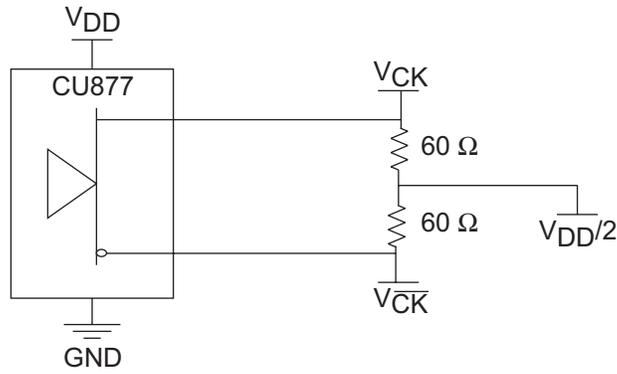

Figure 2. IBIS Model Output Load
1. There are two different terminations that are used with the following tests. The loadboard in Figure 2. IBIS Model Output Load is used to measure the input and output differential-pair cross voltage only. The loadboard in Figure 3. Output Load Test Circuit 1 is used to measure all other tests. For consistency, equal length cables must be used.